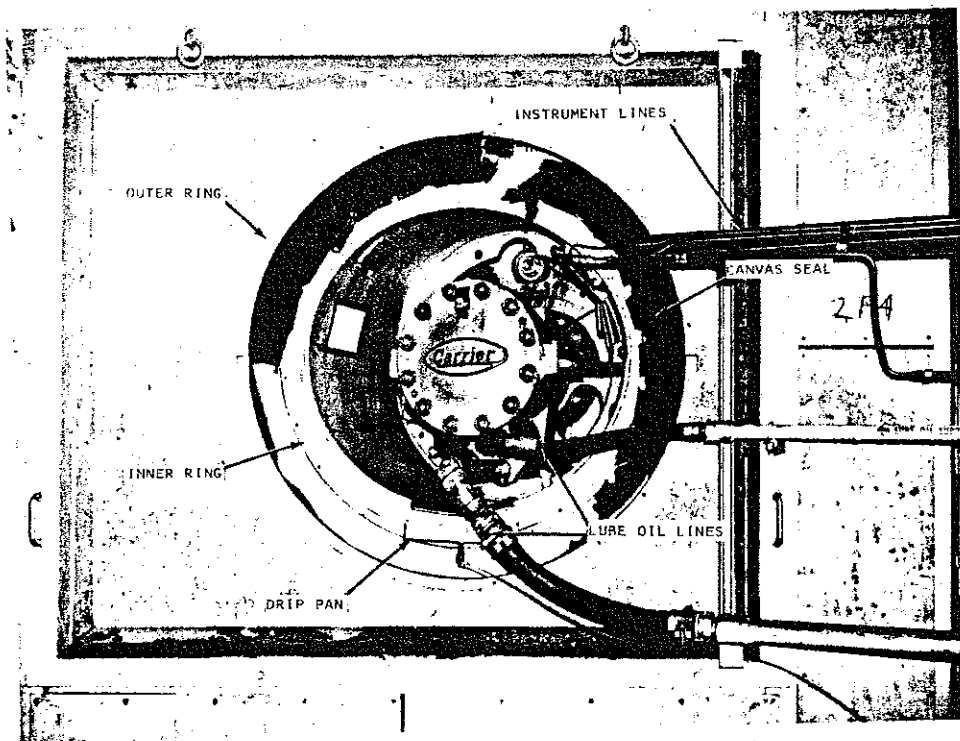

FIG. 6. INSTRUMENT AND LUBE LINES
- b. Disconnect instrument lines at terminal block on thrust end of compressor. Do not remove identification tags from lines and avoid bending instrument lines (see Figure 6).
- c. Disconnect and remove lube oil lines and oil drip pan at thrust end of compressor (see Figure 6).